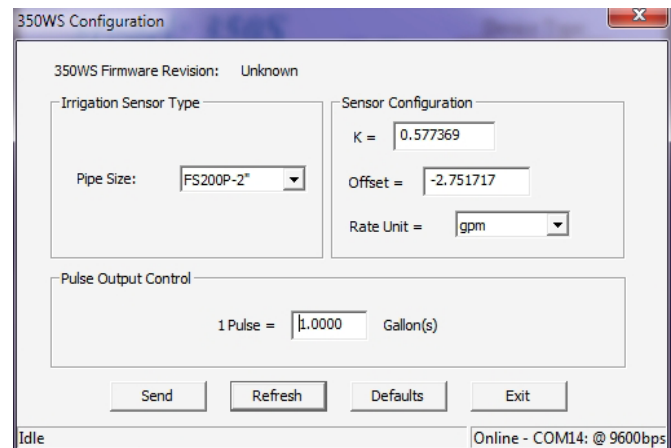

Figure 20: Flow sensor parameters
7. Program the wireless flow sensor using the Parameters screen in *Figure 20* as a reference.